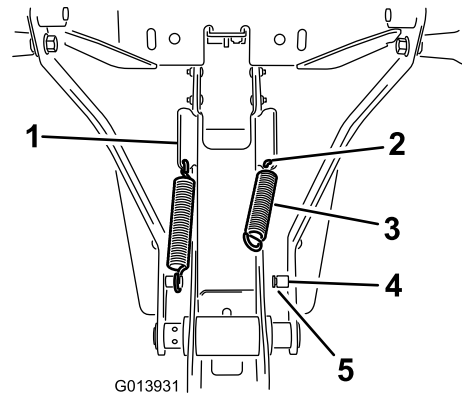

Figure 18
1. Install the spring in the hole in the lower end of the angled tab on the side of the frame assembly (Figure 18).
2. Hook 1 end of the spring into the hole and the other end onto the spring post (Figure 18).
3. Make sure that the spring end is seated properly in the groove in the post (Figure 18).